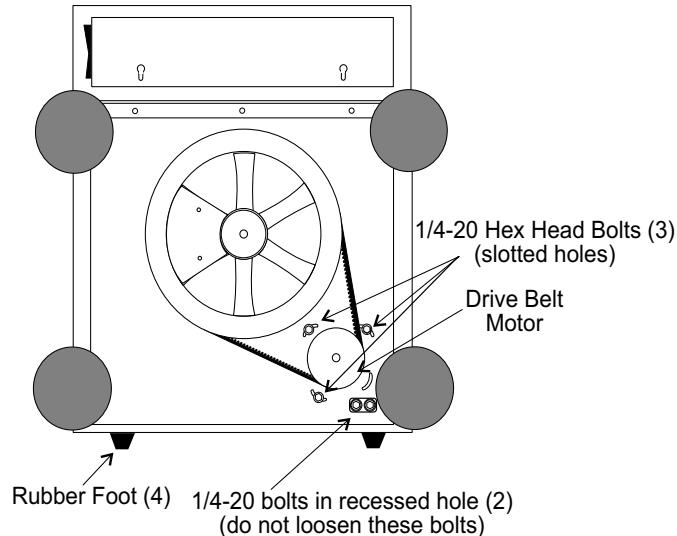

Figure 4-1. Underside of shaker cabinet with bottom cover removed
4. Loosen but do not remove, the two 7/16" screws located in the slotted holes adjacent to the shaker drive motor. Refer to Figure 4-1.